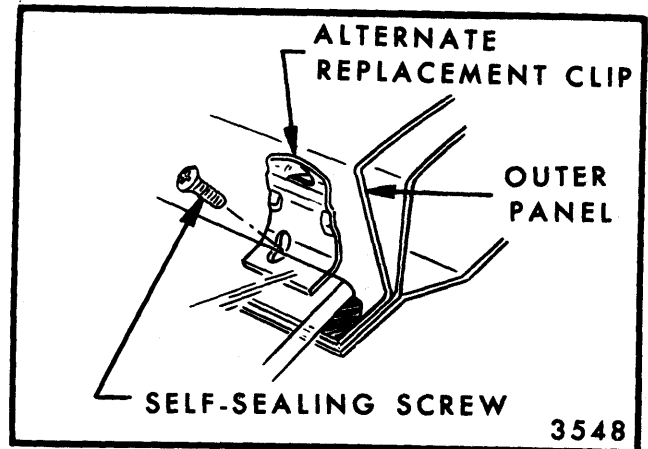

Fig. 17-5—Reveal Molding Clip Alternate Replacement
- b. Insert a self-sealing screw through alternate replacement clip and into panel (Fig. 17-5).